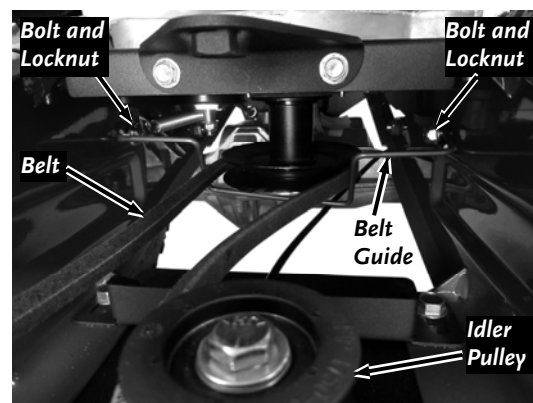

Figure 22
2. Remove the Bolt and Locknut at one side of the Belt Guide using two 9/16" Wrenches (**Figure 22**).
Note: Make sure to route the new Belt on the inside of the Idler Pulley as shown in **Figure 22**.